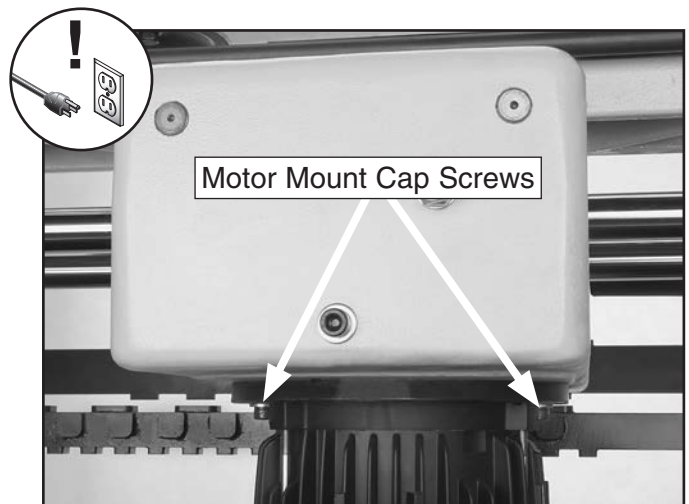

Figure 57. Motor mount cap screw locations.
2. Loosen the two motor mount cap screws shown in **Figure 57**.
- Loosen the two motor mount cap screws shown in **Figure 57**.